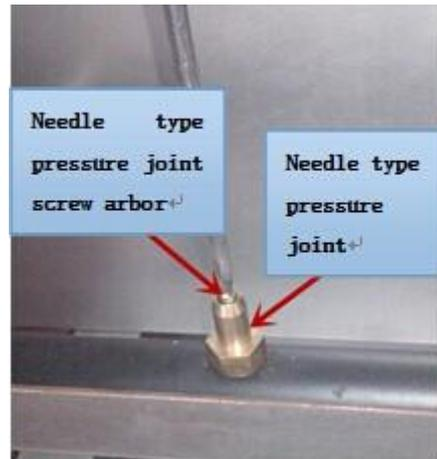

Fig. 1
- Remove top panel, and needle type pressure joint screw arbor (Fig. 1), then slip rubber tube of pressure gauge over needle type pressure joint;